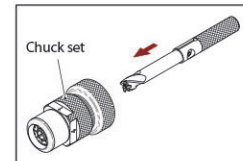

Fig. 2-5
- ※ When assembling with the chuck set, put it in from the rear of the chuck set. (Fig. 2-5)